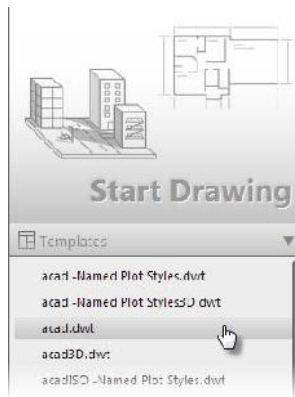

FIGURE 3.1: Selecting the acad.dwt template from the Start Drawing tool
2. Expand the Templates menu within the Start Drawing tool on the Create page shown in Figure 3.1, and select the acad.dwt template.